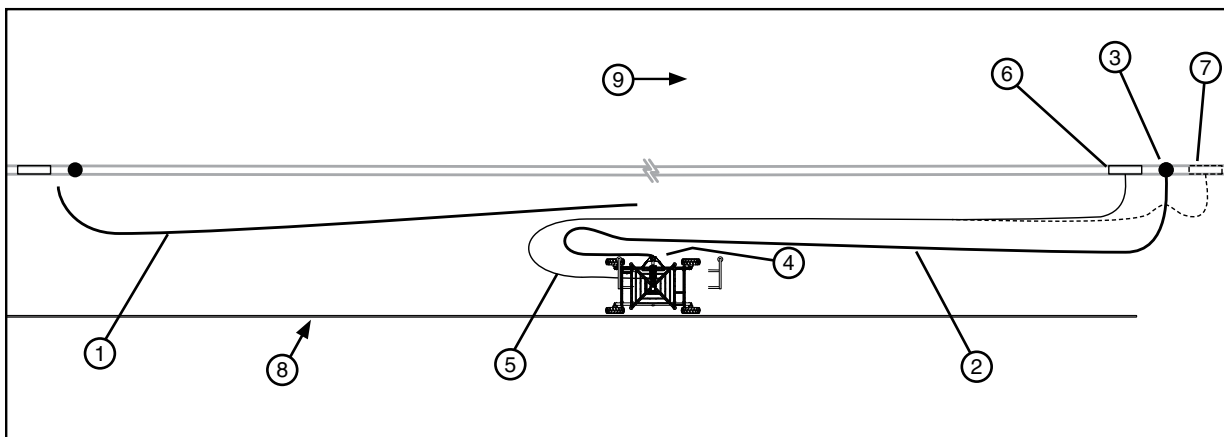

Figure 54-1 1. First Hose 4. Side Inlet 7. Alternate Power Pedestal Location and Electric Cord Position
- If more than one hose is being used, disconnect first hose from side inlet. Connect second hose to next pipeline shut off valve, position second hose, connect and secure to side inlet. See Figure 54-1.
- (c) Position the electric cord far enough away from the hose, so that the hose will not drag over it. To prevent interference between the electric cord, cart tires and hose, bury the electric cord in the area where interference will occur or when applicable, position the electric cord over the top of hose. See Figure 54-1.